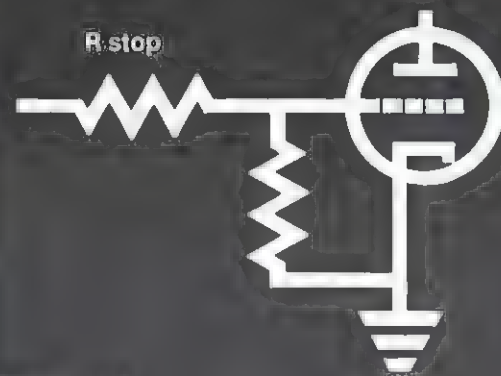

Fig. 15
1. All grounding should be to a good earth ground such as a metallic cold water pipe or 2.5m (8') ground rod. Ground leads should be as short as possible. Remember, a DC ground may appear as an open circuit to RF energy. Ground leads should be of as large a diameter wire as practicable. Finally, grounding of the chassis, shields of speaker leads, and other external connections should be made to a common point to avoid ground loops. (Ground loops are circuits that form a DC ground, but contain RF circulating currents.) Figure 15 shows the correct and incorrect methods of grounding components.
3. A grid-stopping or "swamping" resistor can also be employed. A resistor, ranging in value from 1 k to 75 k ohms, can be connected in series with the grid as shown in Figure 15.